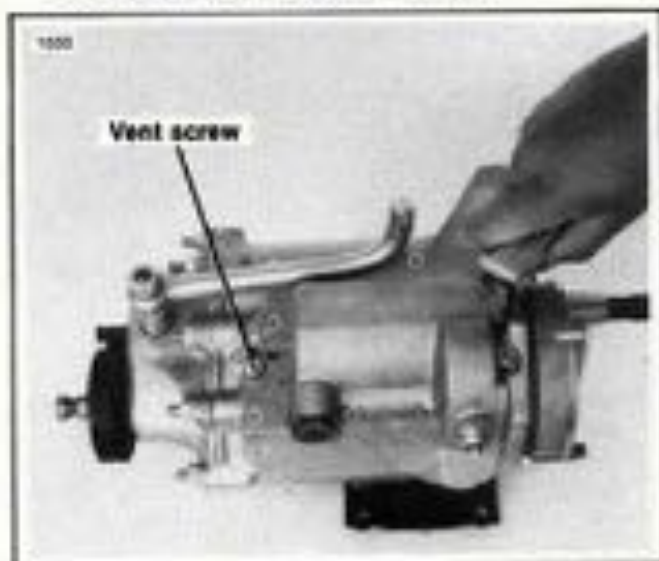

Figure 7-3. Shifter Cover — Drum Shifter
2. See Figure 7-3. Remove the shifter cover mounting screws, the slotted screw is a vent screw and must be reinstalled in the same location.
13. See Figure 7-3. Install the cover assembly on the transmission with the original screws. Install the vent screw next to the dowel pin as shown. Install the two longer screws in the holes next to the shifter assembly. Tighten screws to 80-110 in-lbs torque.